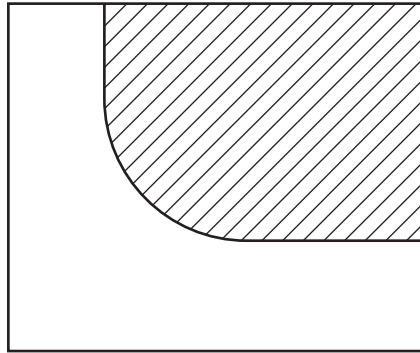

Fig. 9
- (e) Fig. 9 shows the shape of the measuring scale partly marked out on 2 mm thick mild steel sheet.